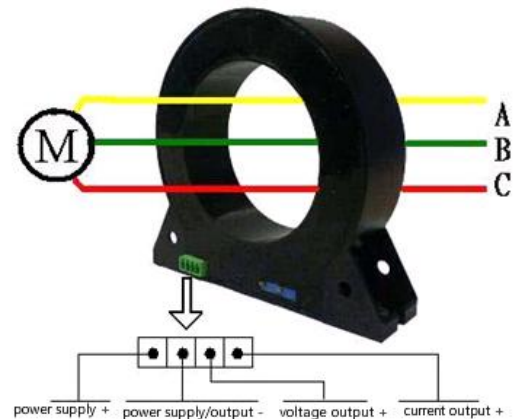

Figure 3, wiring diagram (Note: example. measure the three-phase)
- ① 5.5 mm diameter hole in the fixed plate according to the $\Phi 6$ screw hole position shown in Fig. 3;
- ② Use the screw smaller than $\Phi 5.0$ to insert into hole to secure it.